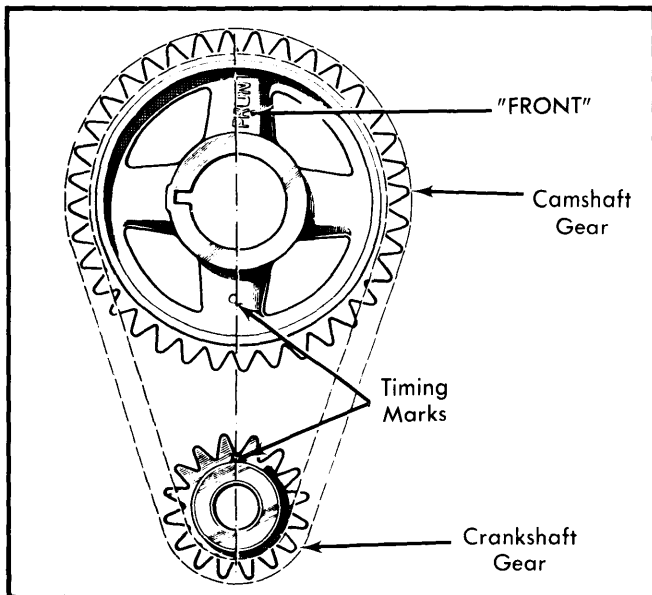

Fig. 10 Setting Valve Timing
**Installation** – 1) If crankshaft and/or camshaft have not been rotated, proceed to step 3). If rotation has occurred (and with rocker shaft assemblies removed) set No. 1 piston at TDC. Temporarily install only camshaft gear on shaft with word, "FRONT", facing away from engine. See Fig. 10.
2) Turn camshaft until timing mark on gear is at lower 6 o'clock position. See Fig. 10. Remove camshaft gear without disturbing camshaft. Place camshaft and crankshaft gears in chain so their timing marks align.